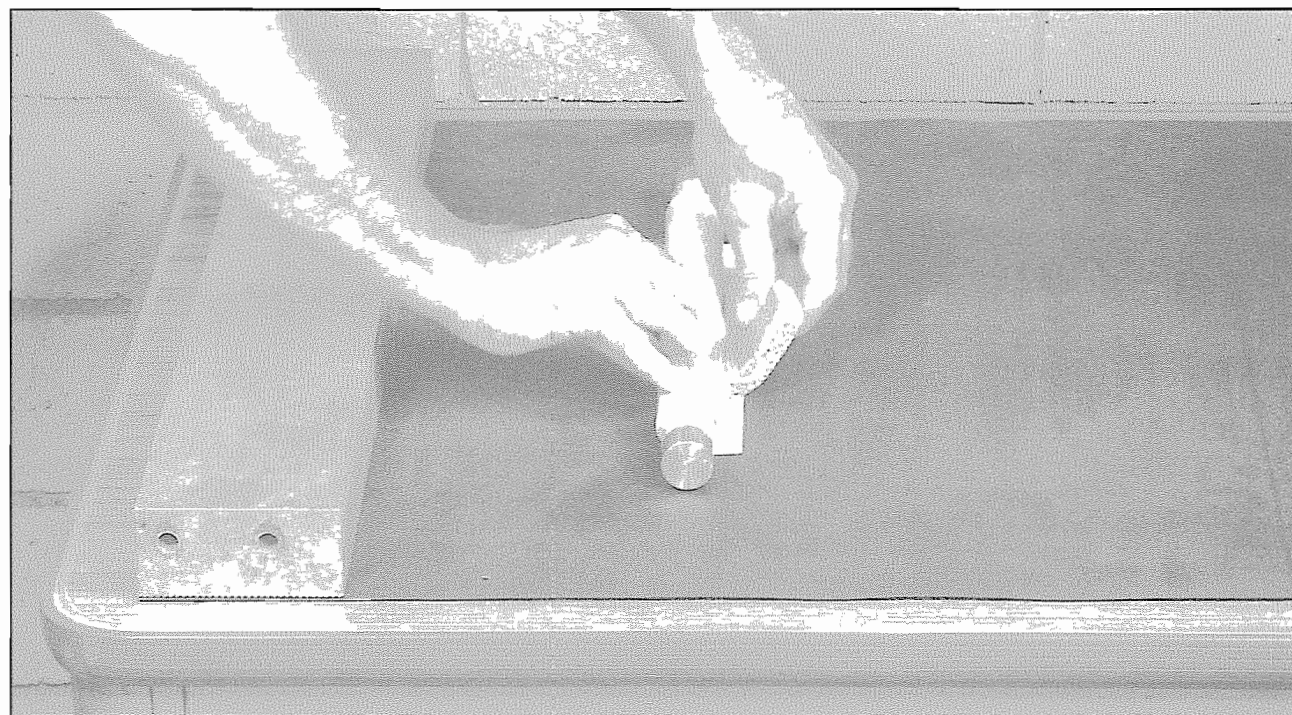

Figure 8-28. The sponge dampens the end of the paper and the surface of the tube beneath it.
10. Squeeze the damp sponge *between* the end of the paper and the tube, dampening *both* surfaces in the process (Figure 8-28). *Without delay*, roll the bar forward, and rock it back and forth over the end of the paper until the end is firmly bonded. Then set the bar with the partially rolled casing aside, and proceed to **step 11**.